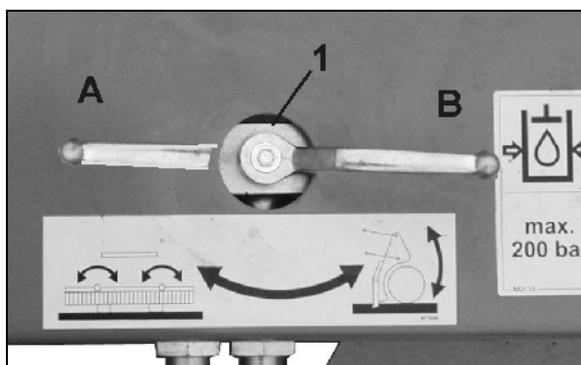

Fig. 26
1. Move the stop tap (Fig. 26/1) to position B.
1. Move the Absperrhahn (Fig. 26/1) to position B.